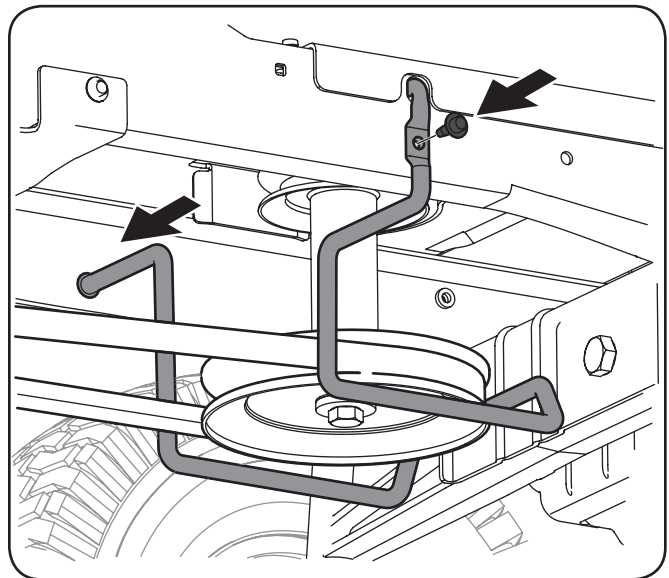

Figure 3-11
- On models with a **Manual PTO**, install the new belt keeper rod and secure it with the hex screw retained when the old keeper rod was removed. See Figure 3-11.